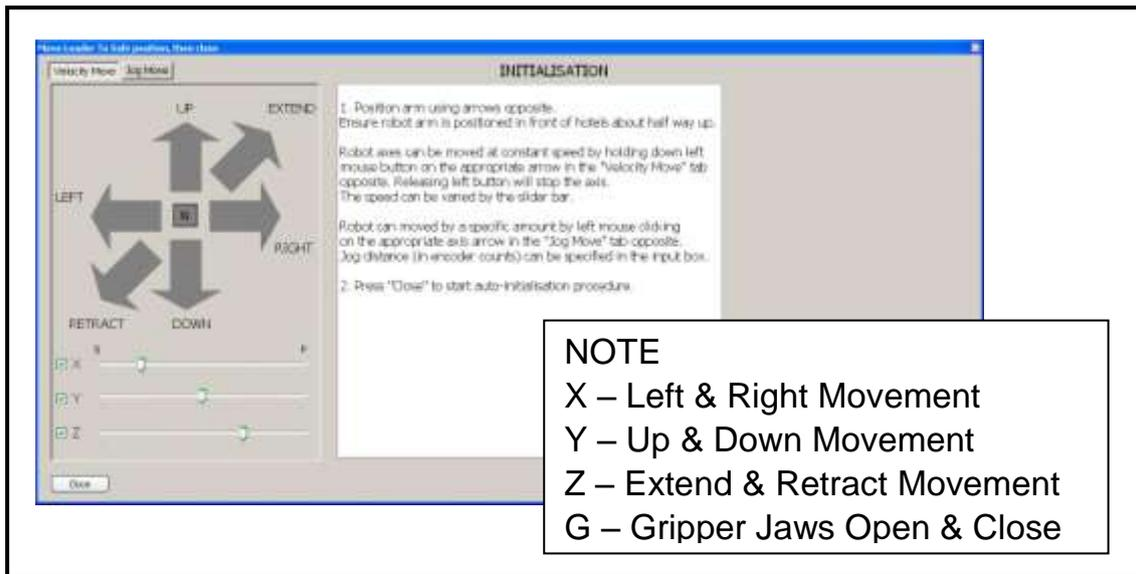

Fig: 21
- The manual mover screen will appear (Fig 21), use this to move the loader to a position clear of the stage and about half way up the Y axis.